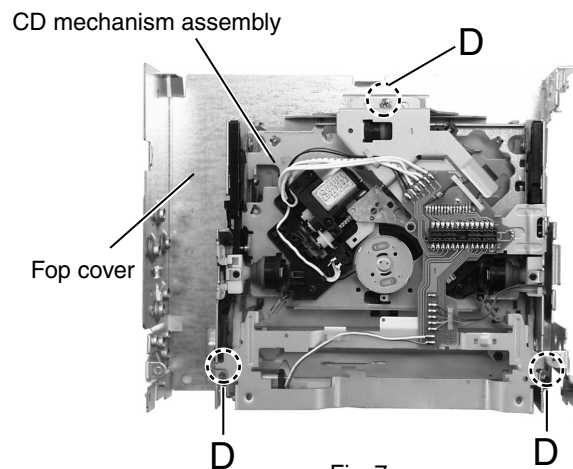

Fig. 7
(See Fig.7)**
- The CD mechanism ass'y (Refer to Fig.7)